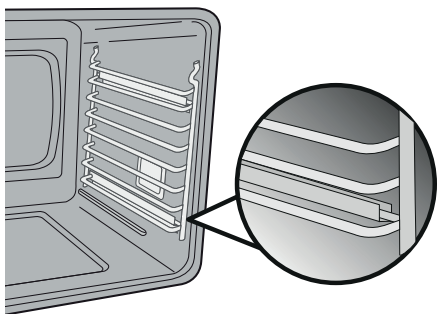

Figure 8: Ladder rack supports
1. Place the ladder racks hook side up into the support brackets located on the sides of the oven (Figure 8).